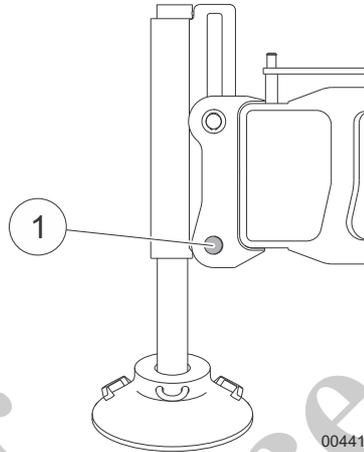

Fig. 125 Removing the pin from the bottom hole
10 Remove the pin (1) in Fig. 125 from the bottom hole.